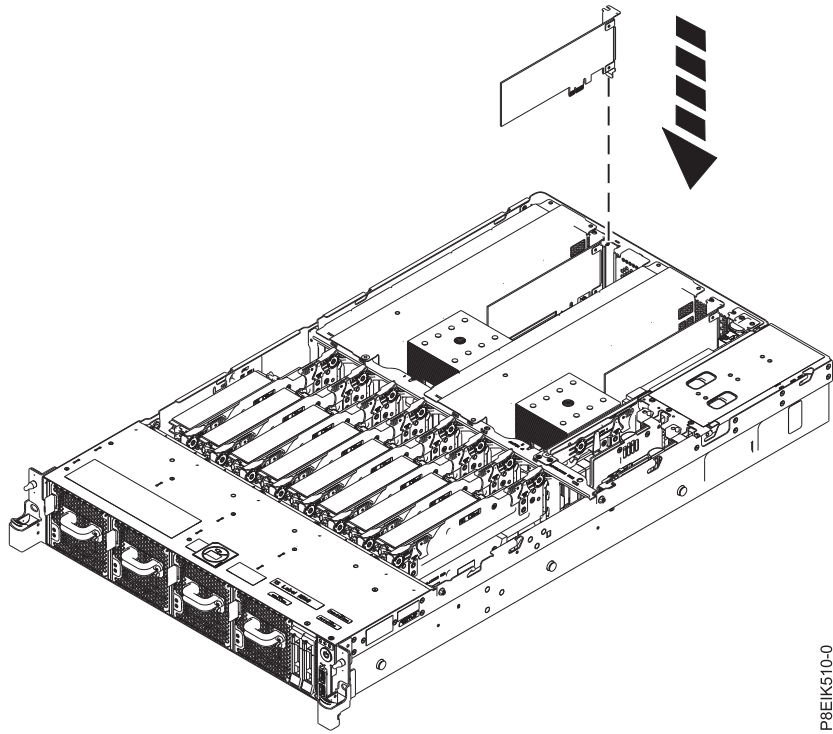

Figure 96. Inserting a PCIe adapter
2. Insert the replacement PCIe adapter into the system backplane as shown in Figure 96 on page 81, aligning the adapter properly and inserting it fully into the slot. When inserting a long PCIe adapter card into slot 2 in a system that is water cooled, be careful to ensure that the water hose is not pinched under the adapter card. Route the water hose around the end of the adapter card.